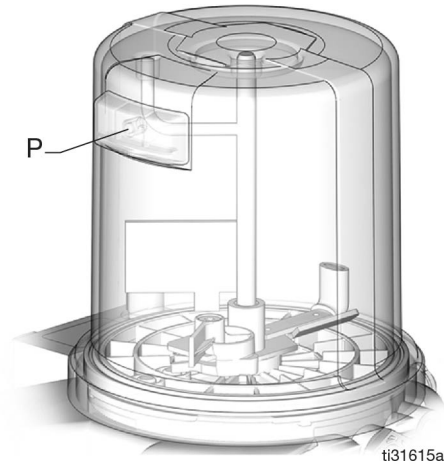

FIG. 28
NOTE: The reservoir air vent (P), located at the rear of the reservoir, should not be used as an overfill port/indicator (FIG. 28).